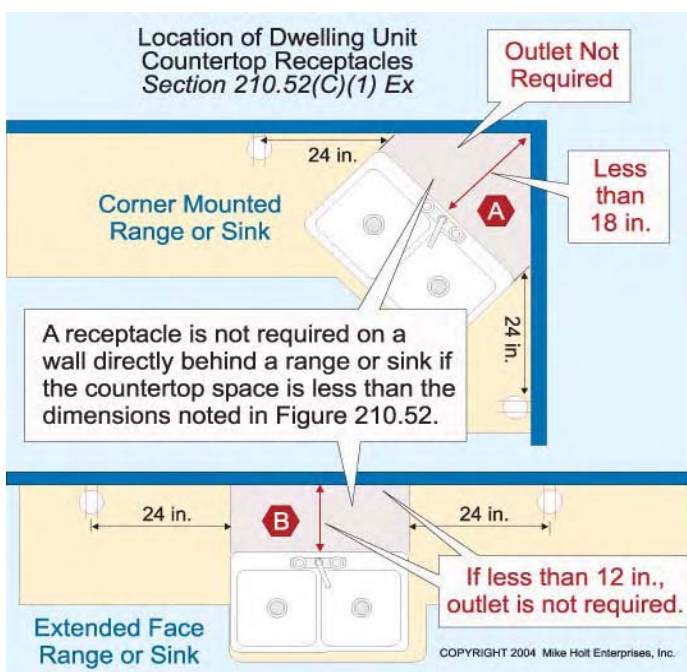

Figure 210-54
*Exception: A receptacle outlet isn't required on a wall directly behind a range or sink as shown in **Figure 210-54***